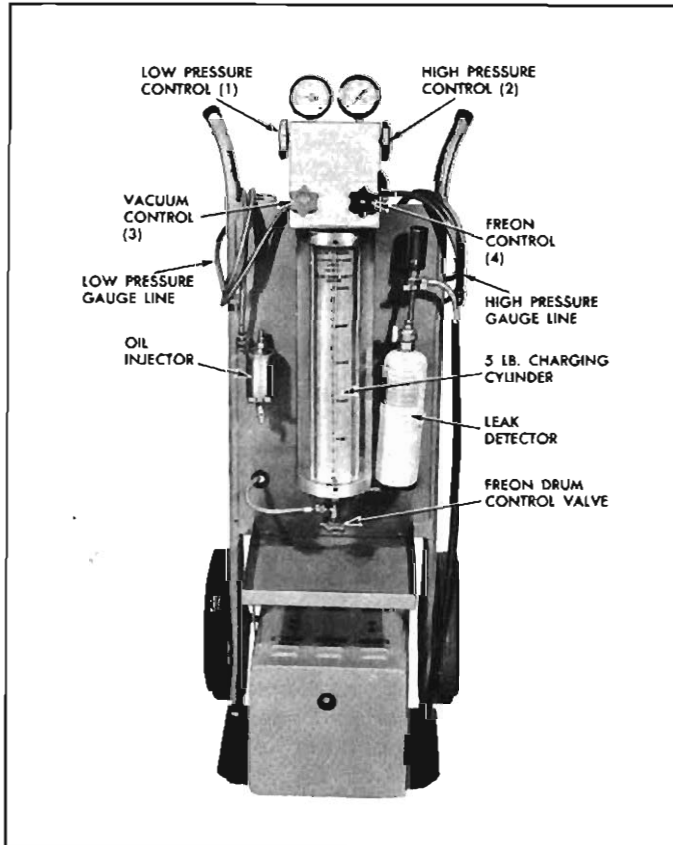

Fig. 11-21—J-8393 Freon Charging Station
The J-8393 Freon Charging Station (figs 11-21 and 11-22) is a portable assembly of a vacuum pump, Freon supply, gauges, valves, and most important, a five (5) pound metering Freon charging cylinder. The use of a charging cylinder eliminates the need for scales, hot water pails, etc.
All evacuation and charging equipment is hooked together in a compact portable unit (fig. 11-21) which nearly anyone can use to do an adequate job of servicing a car air conditioner. It brings air conditioning service down to the basic problem of hooking on two hoses, and manipulating clearly labelled valves.
3. See Figure 11-21. Turn high pressure control (2) one turn counter-clockwise (open). Crack open low pressure control (1) and allow Freon gas to hiss from low pressure gauge line for three seconds, then connect low pressure gauge line to low pressure gauge fitting on compressor.
1. Install charging station as previously described. Refer to Figure 11-21 while performing the following operation.
3. Crack open high (2) and low (1) pressure control valves, and allow Freon gas to purge from system. Purge slow enough so that oil does not escape from system along with Freon.
5. Turn on vacuum pump and open Vacuum Control Valve (3).
7. If 28-29 inches cannot be obtained, close Vacuum Control Valve (3) and shut off vacuum pump. Open Freon Control Valve (4) and allow ½ pound of Freon to enter system. Locate and repair all leaks.
10. Close Low-Pressure valve (1). Fully open Freon Control Valve (4) and allow all liquid Freon to enter system. When full charge of Freon has entered system, turn off Freon Control Valve (4) and close hand shut-off valves.